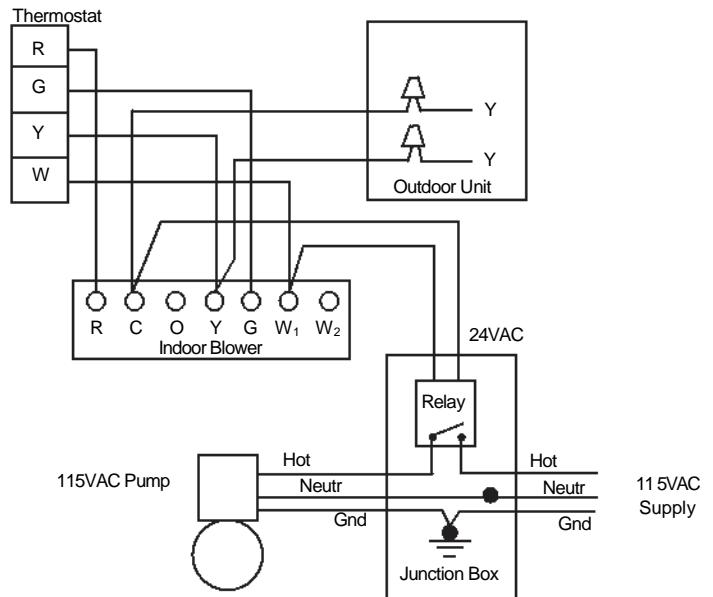

Fig. 3 - Typical Low Voltage Control Wiring-Cooling with Hot Water Coil
1. Pump and/or zone valves must be activated from a 24 volt circuit from the room thermostat through a 24 VAC SPST Coil. See Fig. 3. Any enclosed type fan relay meeting voltage and amp ratings will work, but it must be enclosed in an acceptable junction box.